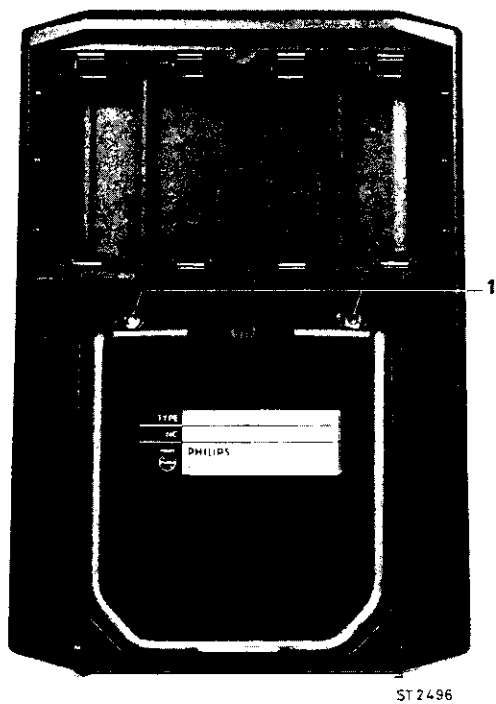

Fig. 39.
4.2. DISMANTLING THE PM 2517 (Figure 39)
- The front and the rear cover can be pulled (item 1 Fig. 39) from the PM 2517 now
4.3.4. Battery springs (Figure 39)